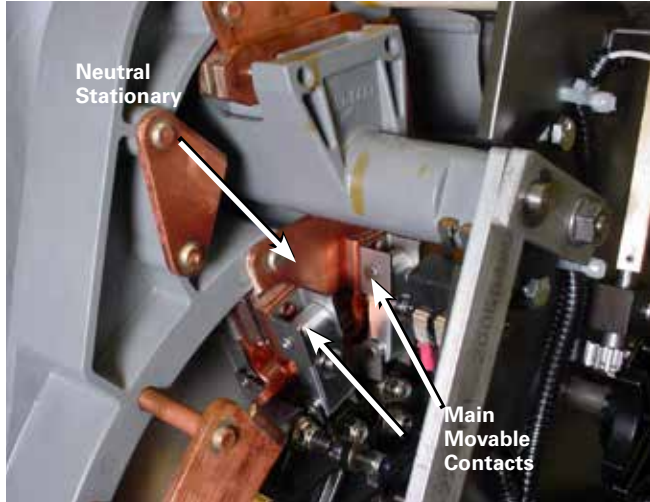

Figure 92. Neutral position for main movable contacts.
- A. Main movable contacts are located on the neutral stationary contact, which is located at the 11 o'clock position and under the reversing switch movable contact assembly. See Figure 92.